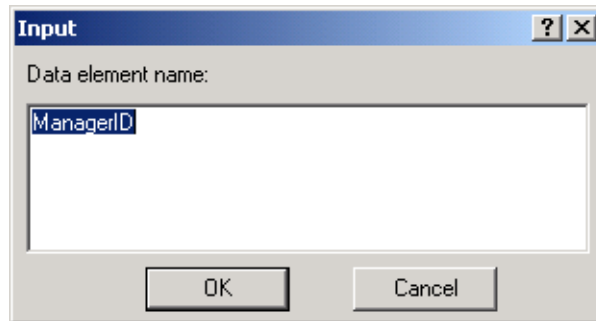

Figure 37-16. The Input dialog with a data element that will be providing input to the method.
- 2 Type the value that you want to be read to the method. This will be an integer. Or, type the name of the data element that will hold the value it receives from the method (refer to Figure 37-16, below). You can also click and drag a data element from the available data elements window and drop it in the **Data Element** column.